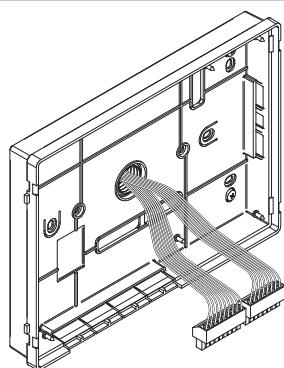
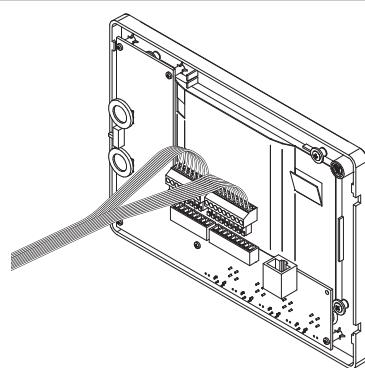

Fig. 5
Fig. 6
5. As shown in **Fig. 5**, connect the wires to the removable terminals following the provided installation diagram. Connect the terminal blocks to the electronics contained in the cover as shown in **Fig. 6**. Test system before closing. Contrast and hue trimmers can be adjusted only if the videophone is open. To activate the display and see changes use the "Camera Recall" function by pressing  button.